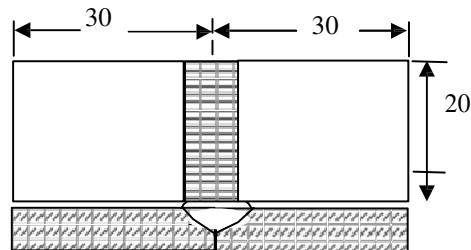

Fig.5: Welding specimen for practice
v) WELDING (GAS WELDING) (in 1 class or 3 hours); To join two thin mild steel plates or sheets (1 to 3 mm thick) as shown in Fig. 5 by gas welding.
vi) WELDING (ARC WELDING) (in 1 day or 3 hours); To join two thick (6mm) MS plate as shown in Fig. 5 by arc welding.